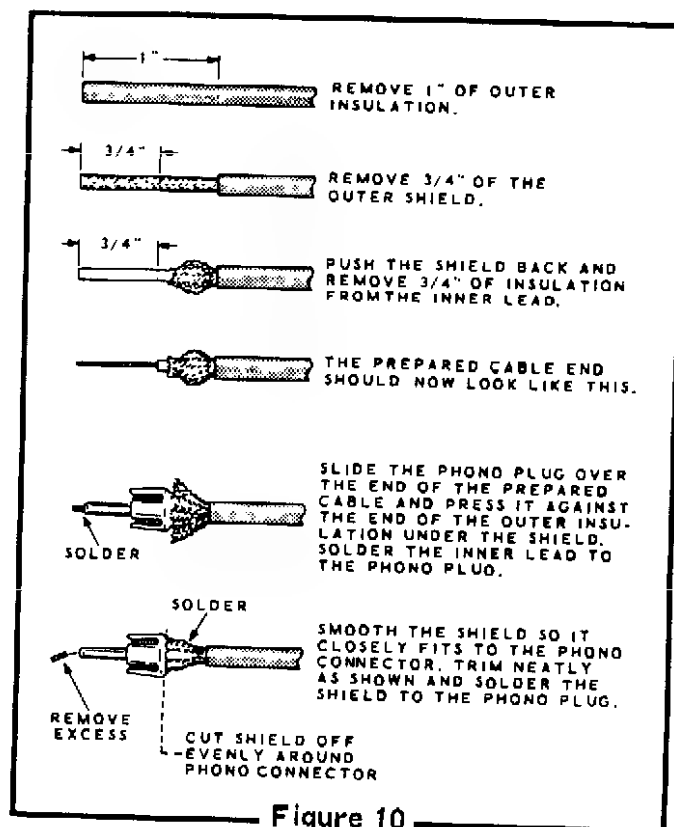

Figure 10
- 1) Attach a phono plug to one end of the length of coaxial cable as shown in Figure 10. NOTE: RG-62 cable (Heath #343-5) is supplied in your kit. Use only this type of cable.